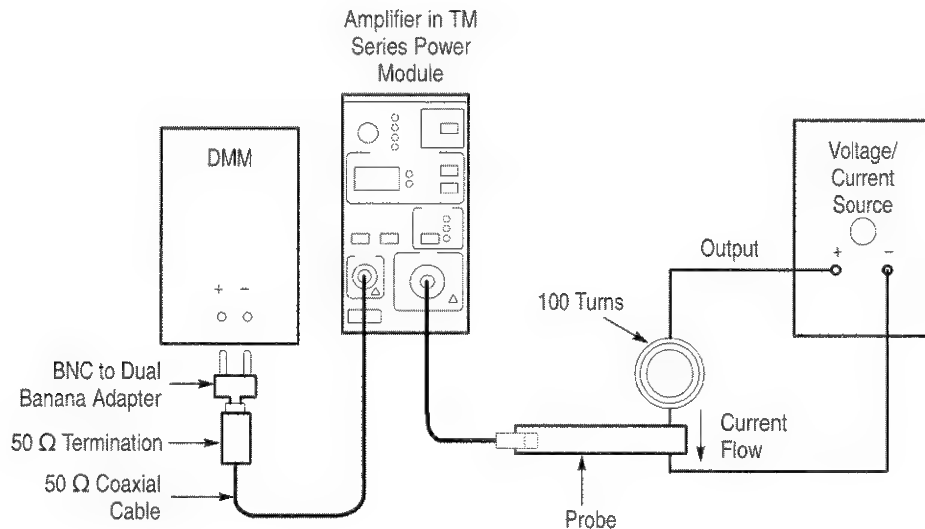

Figure 5-3: DC Accuracy Test Setup for A6302/A6302XL: 1 mA to 50 mA
This procedure tests the DC accuracy of the AM 503B and AM 5030. In this test you compare the voltage output of the Amplifier to a reference input. A multiple-turn current loop is used to keep the measured test current equivalent to a five-division signal for each current/division setting of the Amplifier. Figures 5-3 and 5-4 show how the current loop is connected to the test equipment in the DC accuracy test setup.
2. Connect the current loop and resistor to the voltage/current source as shown in Figure 5-3.